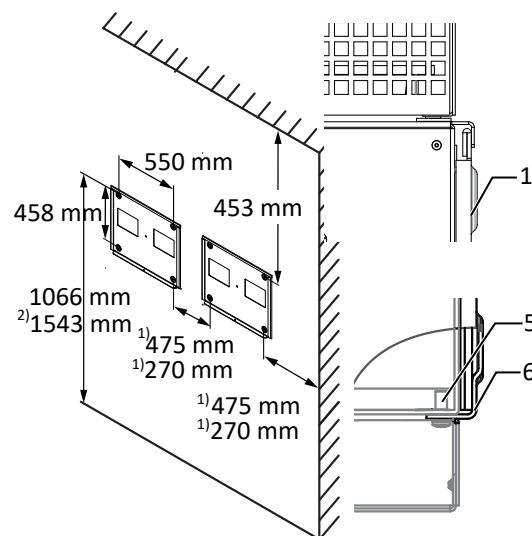

Fig. 12: Wall mounting
- Minimum clearances to be observed during installation: [See figure 12 [▶ Page 17]]
2. Fit the device onto the upper mount by means of the mounting bracket. Fit the device onto the lower mounting bracket in full so that the device sits flush with its rear side on the mount ([See figure 12 [▶ Page 17]]).